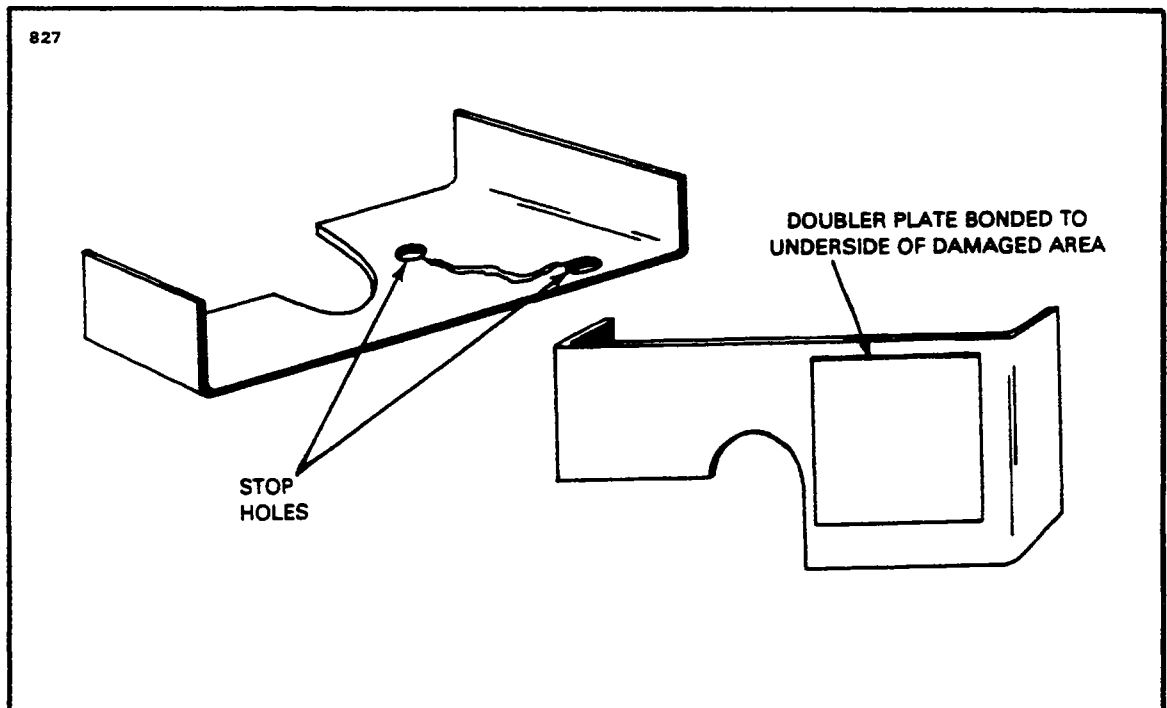

Figure 4-15. Repairing of Cracks
d. Cracks: (Refer to Figure 4-15.)